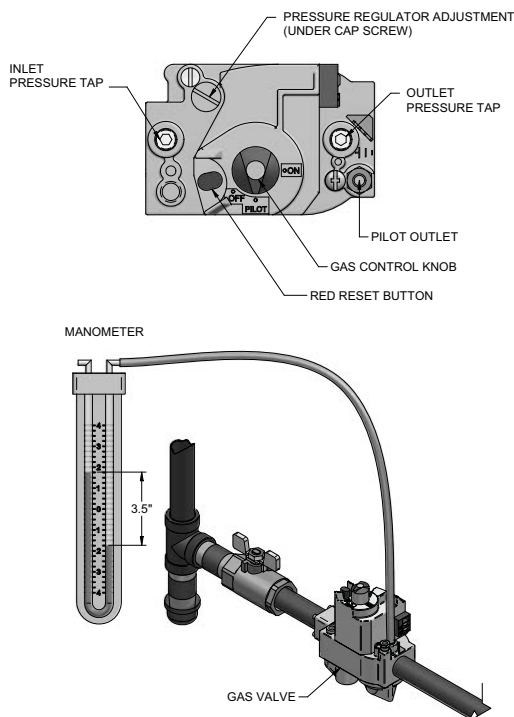

Figure 3-3 Manifold Pressure Adjustment
3. Remove the 1/8" hex plug located on the outlet side of the gas valve and install a fitting suitable to connect to a manometer or magnahelic gauge. See FIG. 3-3. Minimum range of scale should be up to 5" w.c. for Natural gas models and 10" w.c. for L.P. gas models.
4. Remove the pressure regulator adjustment cap screw on the gas valve. See FIG. 3-3 for location.